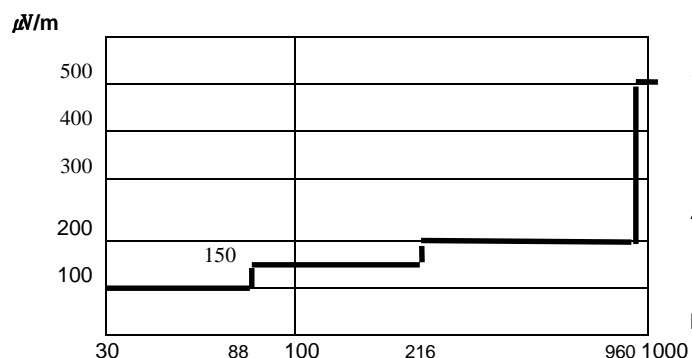

Fig. 6. Limits at 3 meters
2. The radiated limits are shown on Figure 6.